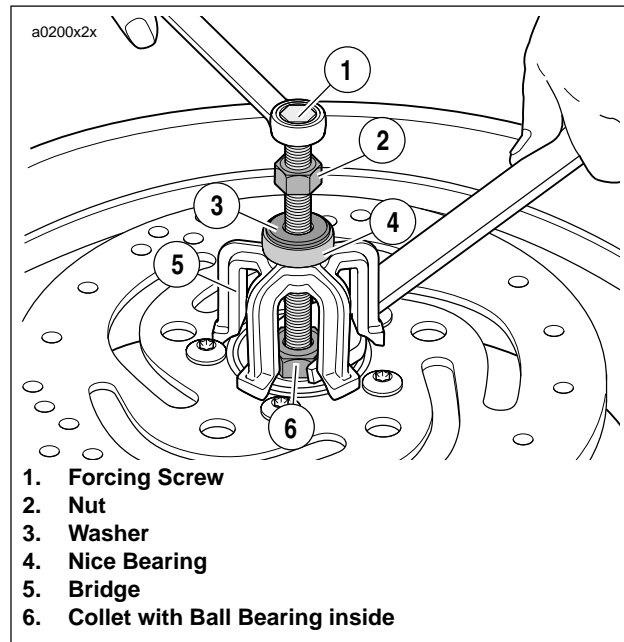
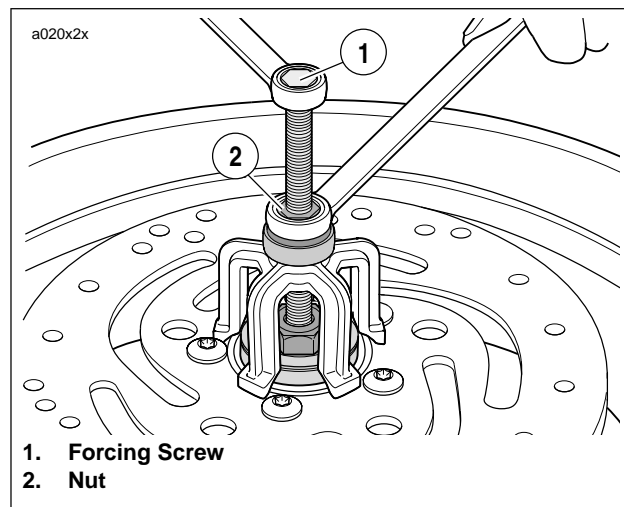

Figure 2-13. Removal Tool
Figure 2-14. Remove Bearing
2. See Figure 2-13. Obtain WHEEL BEARING INSTALLER/REMOVER (Part No. HD-44060) and assemble.
- a. Sparingly apply graphite lubricant to threads of forcing screw (1) to prolong service life and ensure smooth operation.
- b. Install nut (2), washer (3) and Nice bearing (4) on screw. Insert assembly through hole in bridge (5).
- c. Drop ball bearing inside collet (6). Fasten collet and ball bearing to forcing screw (1).
3. Hold end of forcing screw (1) and turn collet (6) to expand edges of collet.
4. See Figure 2-14. When expanded collet has gripped bearing edges, hold end of forcing screw (1) and turn the nut (2) to remove bearing from wheel.